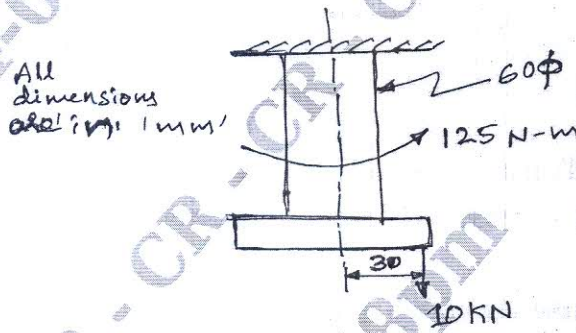

Fig.Q1(c)
- c. Determine the max tensile and maximum shear stress for the Fig.Q1(c) shown below :